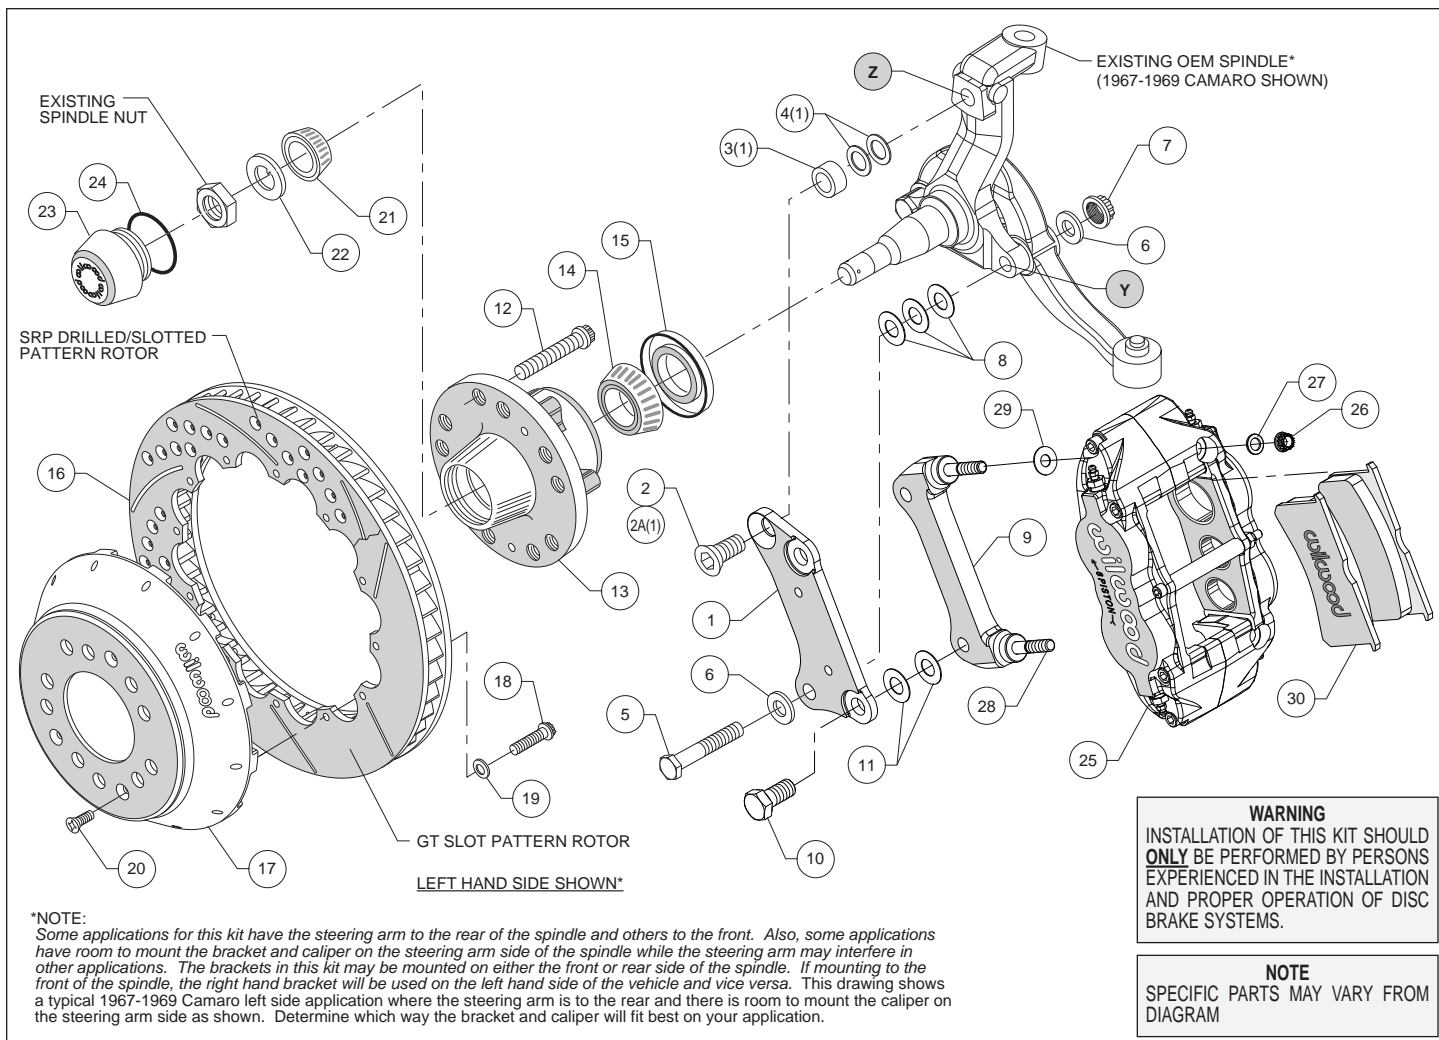
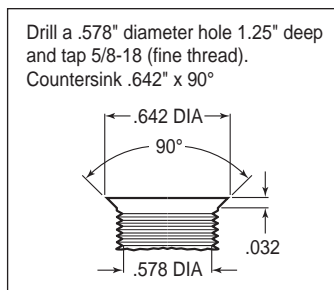
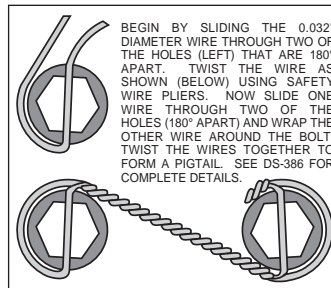

Figure 1. Typical Installation Configuration
Figure 3. Drill and Tap Detail
Figure 4. Safety Wire Diagram
Assembly Instructions (numbers in parenthesis refer to the parts list on the preceding page, and Figure 1):
•**NOTE:** Some applications for this kit have the steering arm to the rear of the spindle and others to the front. Also, some applications have room to mount the bracket and caliper on the steering arm side of the spindle while the steering arm may interfere in other applications. The brackets in this kit may be mounted on either the front or rear side of the spindle. If mounting to the front of the spindle, the right hand bracket will be used on the left hand side of the vehicle and vice versa. Figure 1 shows a typical 1967-1969 Camaro left side application where the steering arm is to the rear and there is room to mount the caliper on the steering arm side as shown. Determine which way the bracket and caliper will fit best on your application.
•**NOTE:** Some spindles in this year range may require the following modifications (reference Figure 1 and Figure 3): Top anchor pin hole (Z) must be drilled and tapped to the dimensions as outlined in Figure 3. The lower bolt hole (Y) in the spindle used to mount the new caliper bracket, and the mating steering arm hole, must be enlarged to .50" by drilling. It is recommended these modifications be performed by a qualified machinist.
•Install wheel studs (12) into the hub (13), Photo 1. Torque to 77 ft-lb. **NOTE:** There are two five lug patterns in the hub (5 x 4.50 and 5 x 4.75). Make sure of the correct hole pattern for the correct wheel application before installing studs into hub.
•Pack the large inner bearing cone (14) with high temperature disc brake bearing grease (available from your local auto parts store) and install into the backside of the hub (13).
•Install the grease seal (15) by pressing into the backside of the hub (13), Photo 2.
•Orient the rotor (16) and the hat (17) as shown in Figure 1 and Photo 3. Attach rotor to hat using bolts (18) and washers (19). Using an alternating sequence, apply red *Loctite*® 271 to the threads, and torque to 155 **in-lbs**. For an added measure of security, the bolts may be safety wired using standard 0.032 inch diameter stainless steel safety wire as shown in Figure 4. Please refer to Wilwood's data sheet DS-386 (available at www.wilwood.com/Pdf/DataSheets/ds386.pdf) for complete safety wire installation instructions.
•**Disc Brake Spindle Application Only:** Follow the instructions below, but instead use bolt (2A), spacer (3), and two .050" thick shims (4) in the upper bolt hole location, Figure 1.
•Orient the flat bracket (1) as shown in Figure 1 and Photo 4, and install using bottom bolt (5), washers (6), and nut (7), Figure 1. Initially place three .032" thick shims (8) between the bracket and spindle. Install the upper bolt (2 or 2A). Temporarily tighten bolts. **NOTE:** *The bracket must fit squarely against the mounting surfaces on the spindle.* Inspect for interference from casting irregularities, machining ridges, burrs, etc. Temporarily install the new hub, hat and rotor assembly. Check that the bracket is aligned parallel to the rotor, Photo 5. If not, adjust by adding or subtracting shims (8) on the lower bolt between the bracket and spindle, Figure 1. Once the bracket alignment is correct, remove the upper bolt (2 or 2A), apply red *Loctite*[®] 271 to the bolt threads, and torque to 120 ft-lb. Torque the lower lock nut to 65 ft-lb.
•The radial mount caliper bracket (9) should initially be installed with clean, dry threads on the mounting bolts. Orient the bracket as shown in Figure 1 and Photo 6, and install using bolts (10). Initially place two .029 thick shims (11) on each bolt between the two brackets, Figure 1. Temporarily tighten the mounting bolts. Later, after the caliper alignment has been checked, the mount bolts will be secured using red *Loctite*[®] 271.
•Pack the small outer bearing cone (21) with high temperature disc brake bearing grease and install into hub (13). Final install the hub assembly onto the spindle. Secure using spindle washer (22) and OEM spindle nut, Photo 7. Adjust bearings per OEM specifications. Install saved OEM nut lock (if any) and a new cotter pin (not included).
•Screw dust cap (23) into hub (13). Friction created by the o-ring (24) on the dust cap keeps it from unscrewing. **NOTE:** *The O.D. of the existing OEM spindle washer may be larger than the I.D. of the dust cap not allowing it to seat against the hub face. Therefore, use the spindle washer (22) supplied with the kit instead of the OEM washer.*
•Final install the rotor (16 and 17) assembly onto the hub (13), taking care to align the small countersunk holes in the hat with the small threaded holes in the hub. **NOTE:** *The hat must fit flush against the hub face or excessive rotor run out may result.* Install three flat head screws (20) through the small holes in the hat (17), Photo 8, and torque to 85 in-lb.
•**NOTE:** *This kit contains distinct right and left hand calipers that must be mounted in a specific direction, as described below.* Lubricate the caliper mounting studs (28) with lightweight oil. Initially place one .035" thick shim (29) on each stud between the caliper and the bracket, as shown in Figure 1 and Photo 9. Mount the caliper (25) onto the bracket (9) using lock nuts (26) and washers (27), Figure 1. Ensure that the caliper is mounted so the largest pistons are at the rotor exit end of the caliper, in relation to the direction of rotor rotation. Temporarily tighten the lock nuts. The rotor should be centered in the caliper, Photo 10. If not, adjust by adding or subtracting shims (11) between the flat bracket (1) and the caliper bracket (9). Always use the same amount of shims on